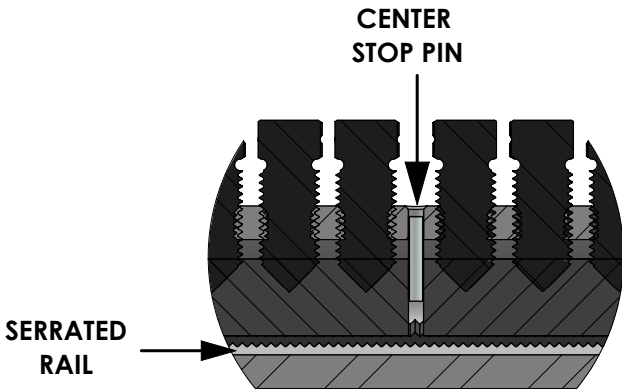

Figure 3 - Detail A
Step 3: Insert rebar into nVent LENTON Connect coupler until contact is made with the center stop pin as shown in Figure 3. Rebar must be flush against center stop pin.